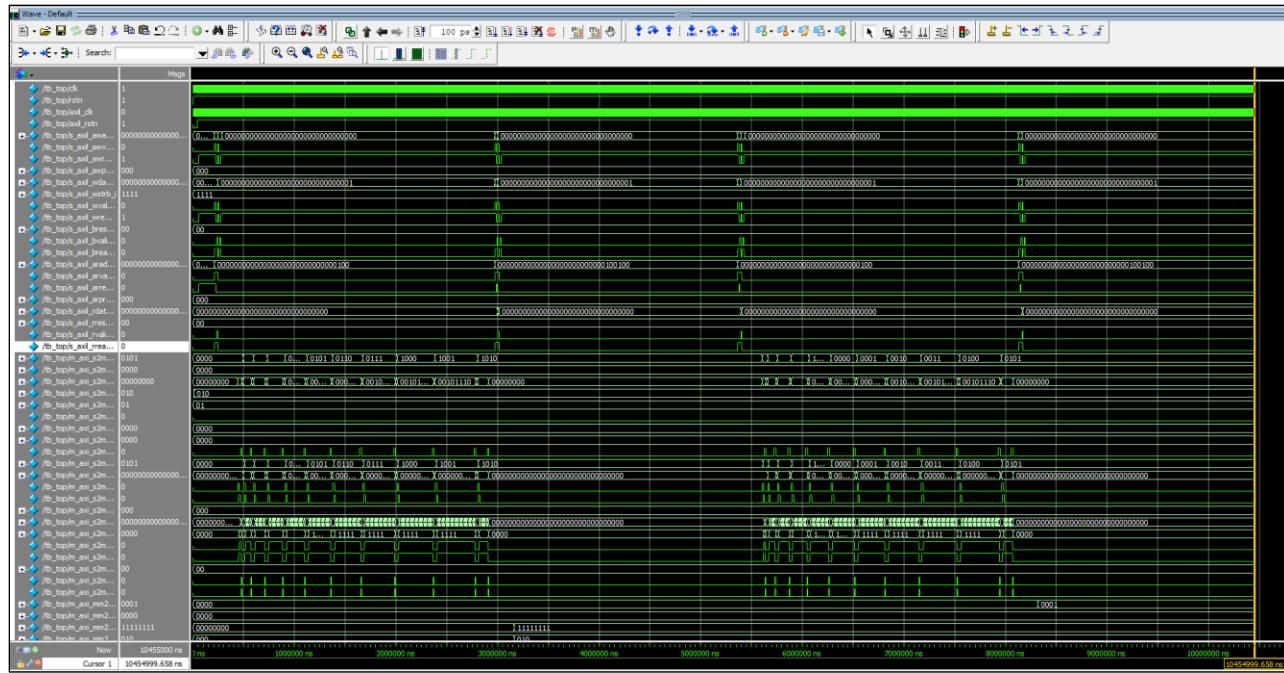

Figure 6.10. Simulation Waveform
5. Click **Finish** to run the simulation. Figure 6.10 shows an example simulation result.